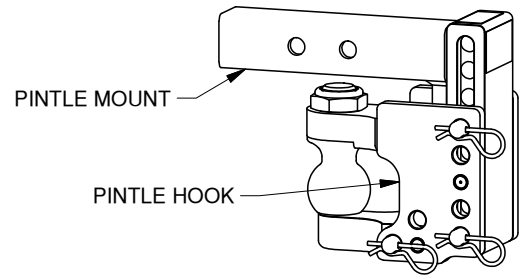
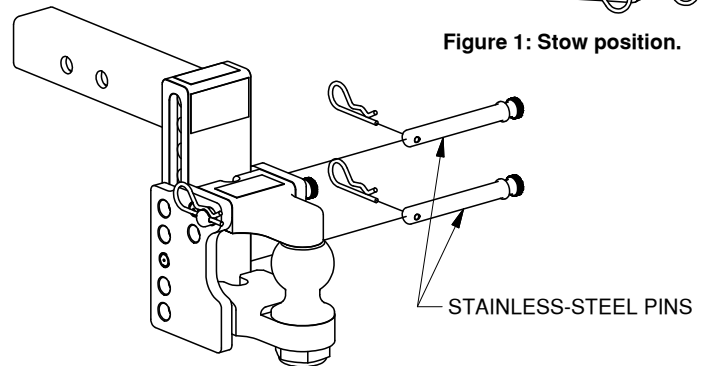

Figure 1: Stow position.
Figure 2: Pintle hook positioning.
- **Adjusting the height of the Tow & Stow Pintle Hitch.** The Pintle hitch will be shipped in the "Stow position", see Figure 1. To adjust the hitch position and height remove the two stainless-steel pins securing the pintle hook to the pintle mount. Move the pintle hook to the desired position and replace the two pins, see Figure 2.